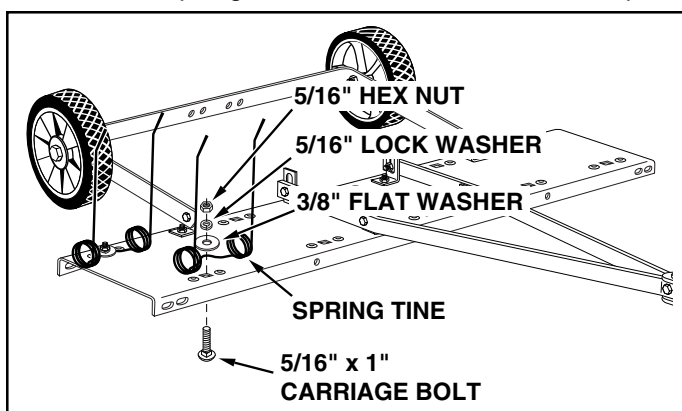

FIGURE 7
13. Fasten ten spring tines (twelve spring tines on the 48") to the square holes in the bottom of the tine shield. Use a 5/16" x 1" carriage bolt, 3/8" flat washer, 5/16" lock washer and 5/16" hex nut for each spring tine. **Tighten**. See figure 7.